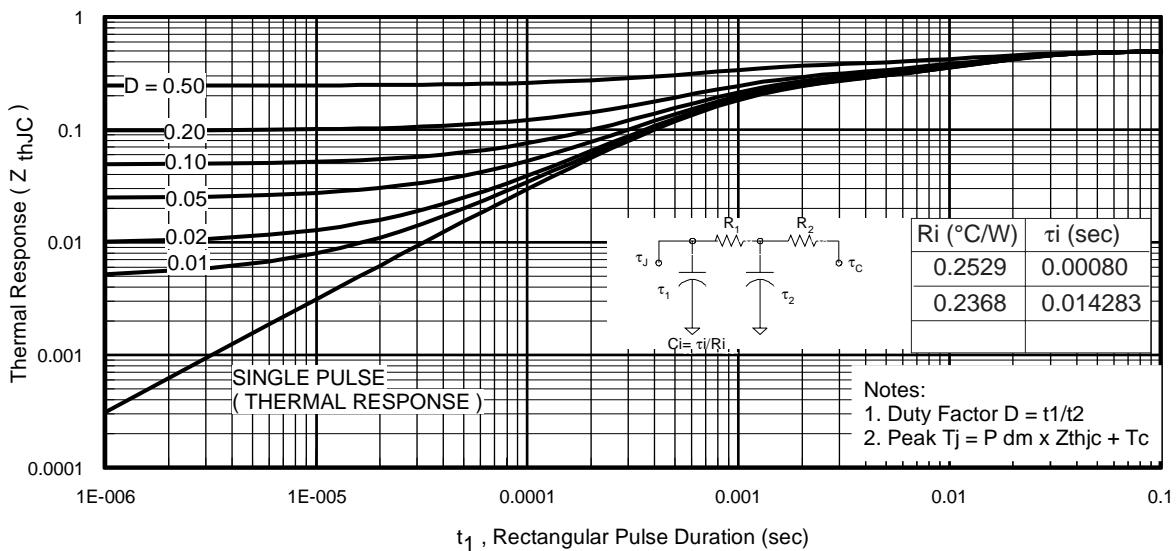
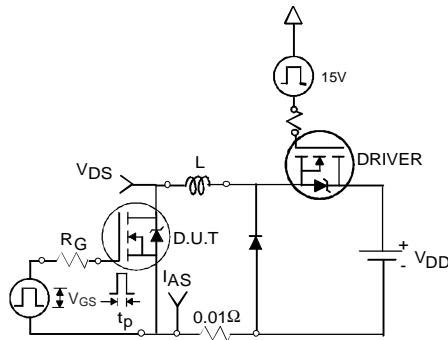

Fig 11. Maximum Effective Transient Thermal Impedance, Junction-to-Case
Fig 12a. Unclamped Inductive Test Circuit
- ① Repetitive rating; pulse width limited by max. junction temperature. (See fig. 11).
- ② Limited by $T_{J\text{max}}$, starting $T_J = 25^\circ\text{C}$, $L = 0.12\text{mH}$ ⑤ $R_G = 25\Omega$, $I_{AS} = 95\text{A}$, $V_{GS} = 10V$. Part not recommended for use above this value.
- ③ Pulse width $\leq 1.0\text{ms}$; duty cycle $\leq 2\%$.
- ④ $C_{oss \text{ eff.}}$ is a fixed capacitance that gives the same charging time as C_{oss} while V_{DS} is rising from 0 to 80% V_{DSS} .
- ⑤ Limited by $T_{J\text{max}}$, see Fig.12a, 12b, 15, 16 for typical repetitive avalanche performance.
- ⑥ This value determined from sample failure population. 100% tested to this value in production.
3. Equation below based on circuit and waveforms shown in Figures 12a, 12b.
$Z_{thJC}(D, t_{av})$ = Transient thermal resistance, see figure 11)